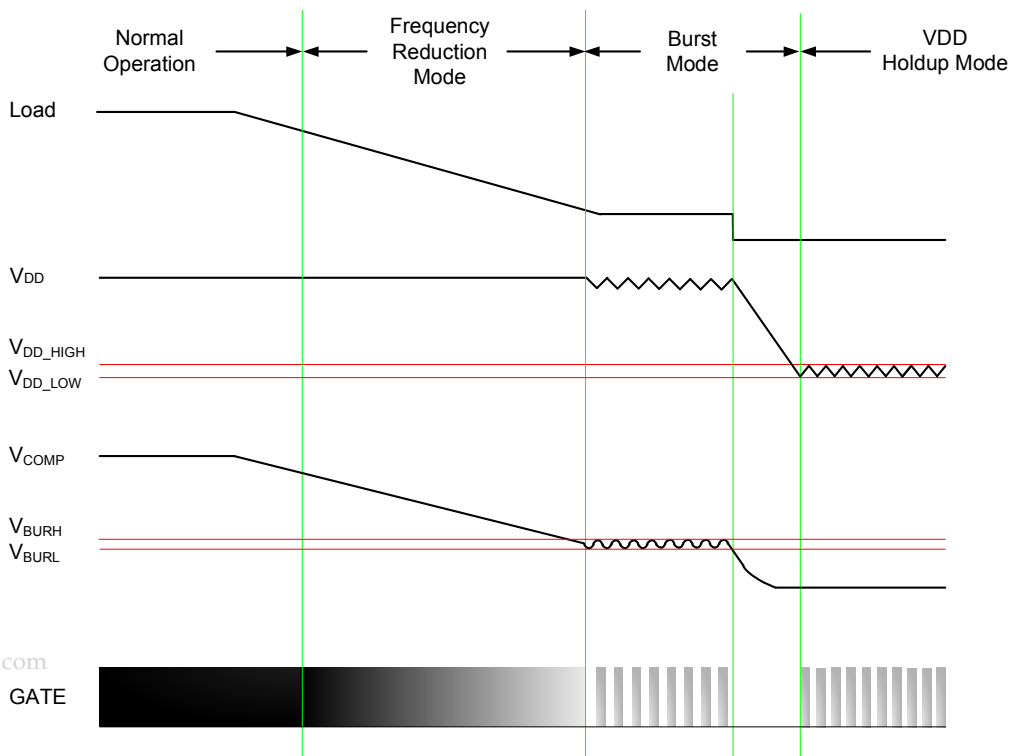

Figure 1. PWM Quadruple Mode
R7732 applies quadruple mode for improving efficiency at light load operation. Please also refer to Figure 1 for details.
- **Burst Mode** : During light load, switching loss will dominate the power efficiency calculation. This mode is to cut switching loss. As shown in Figure 1, when the output load gets light, feedback signal drops and touches  $V_{BURL}$ . PWM signal will be blanked and system ceases to switch. After  $V_{OUT}$  drops and feedback signal goes back to  $V_{BURH}$ , switching will be resumed.